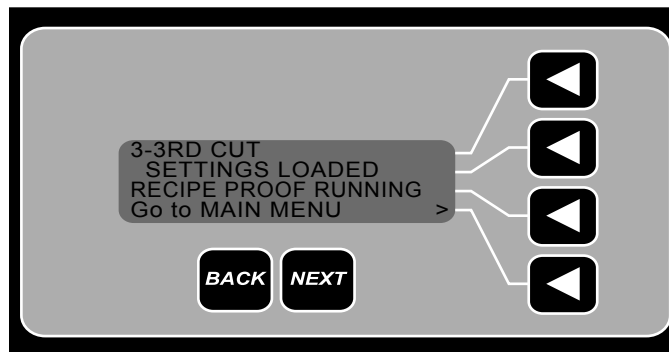

Fig. 11
- Load product if temperature is within 5 degrees of set point. When product is loaded and door is closed, press START/STOP button to start the timer countdown. Dot will flash in corner of TIMER NUMBER display when counting down. "RECIPE PROOF RUNNING" will display (Fig. 11).